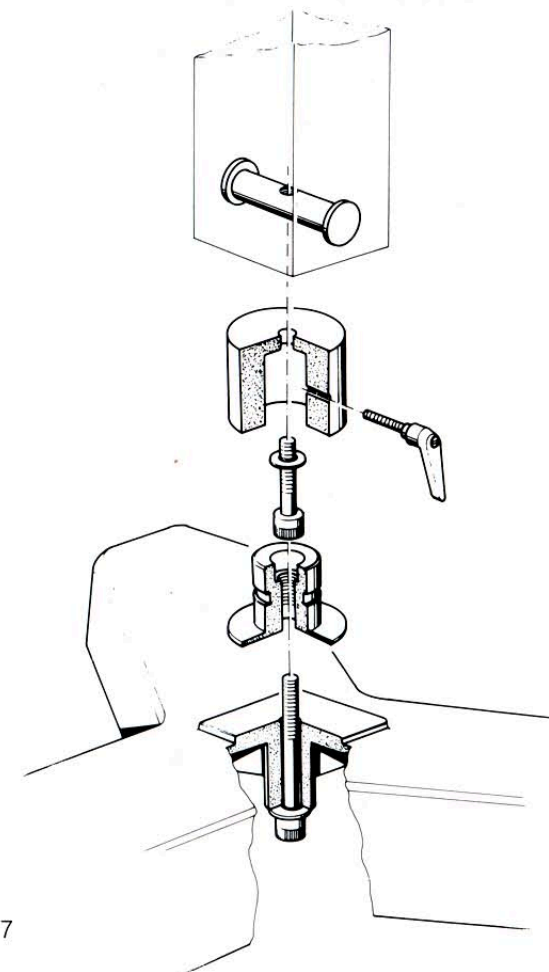

Fig. 7
G. Mounting the ECS-6 Rotating Adapter: (see fig. 7)